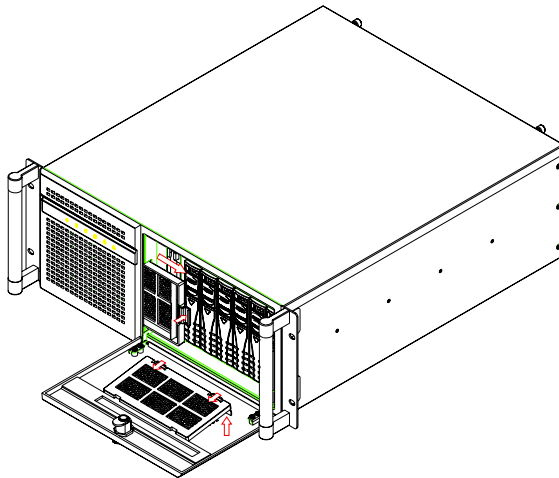

Figure 3.7: Replacing the filters
3. Clean the filter with a soft brush and wash the dust away from the filter with fluent water. Then dry it. (see *Figure 3.7*)